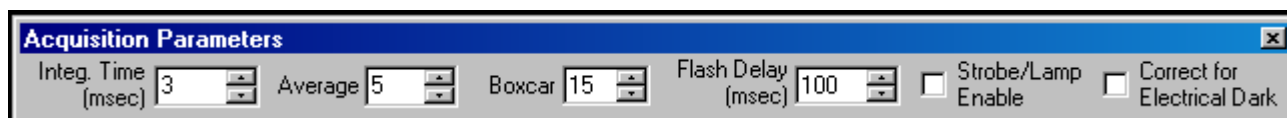

Figure B-1: The Acquisition Parameters Toolbar.
6. Enter the desired delay value in the Flash Delay Control Box (See Figure B-1 on the following page).
8. Enable Single Strobe output by checking the Strobe Enable check box (See Figure B-1 on the following page).